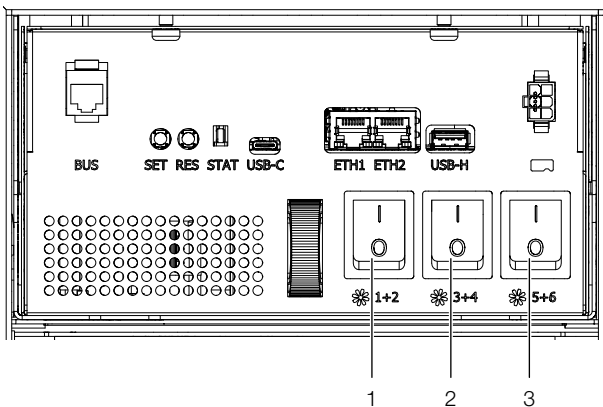

Fig. 49: Electronic module with master switch
On the LCP Inline Flush, On/Off switch 3 (fig. 49, item 3) is not assigned and therefore has no function.